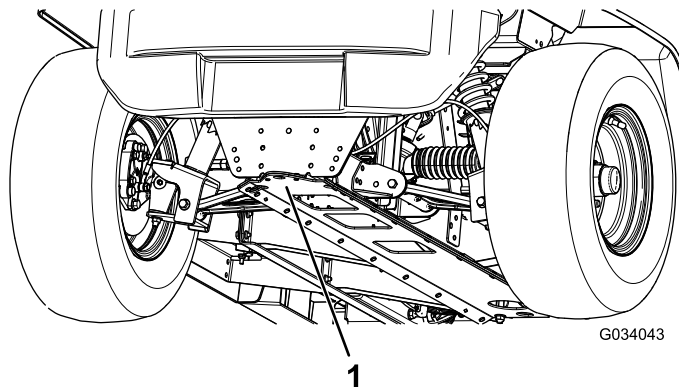

Figure 22
- The lifting point at the front of the machine is located at the front of the frame, behind the towing tongue (Figure 22).